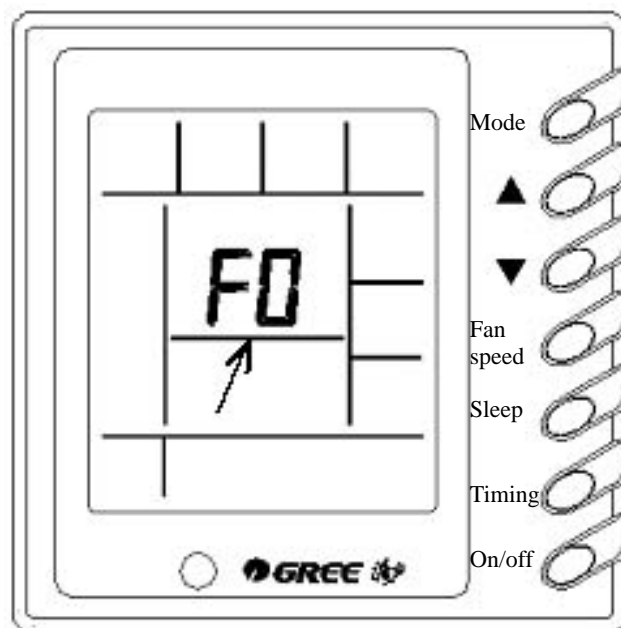

Fig 8
7) When there is malfunction in the system, the malfunction code will be displayed on the wire controller. As shown in Fig 8, the indoor ambient temperature sensor malfunction is displayed.